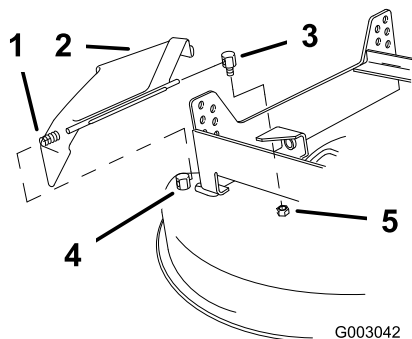

Figure 55
- Remove the locknut holding the rear deflector pivot post to the mower and remove the rear pivot post (Figure 55).
2. Remove the deflector assembly from the front (fixed) deflector pivot post and remove the deflector assembly from the mower (Figure 55).
5. Install the rear deflector pivot post onto the mower and tighten the locknut (Figure 55). The grass deflector must be spring-loaded in the down position. Lift the deflector up to test that it snaps to the full down position.